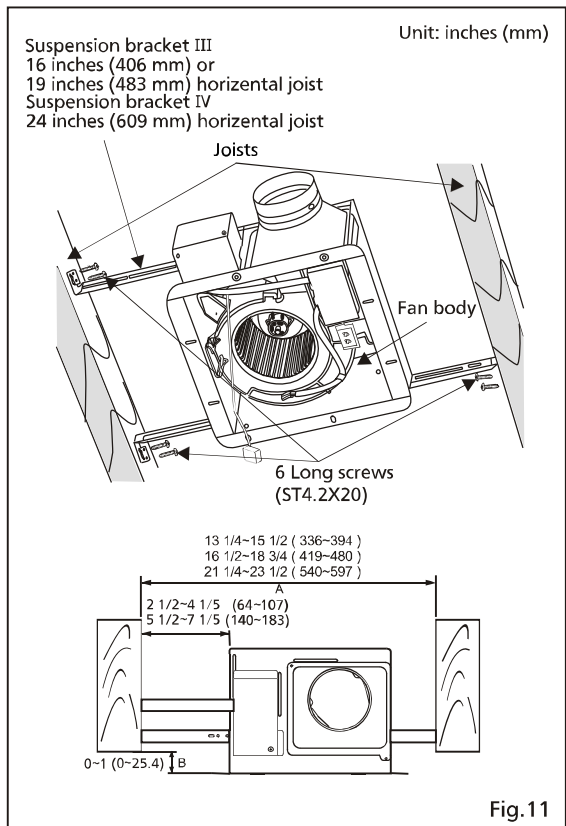

Fig.11
2. Insert the suspension bracket I and II into the fan body and suspension bracket III or IV into the adaptor. (Select the suspension bracket connection holes as shown below) (Fig.10, Fig.11)
3. Install the suspension bracket to joists by using long screws (ST4.2X20) (Fig. 11) and secure it to the fan body by using screw II (ST4.2X14) (Fig. 12)